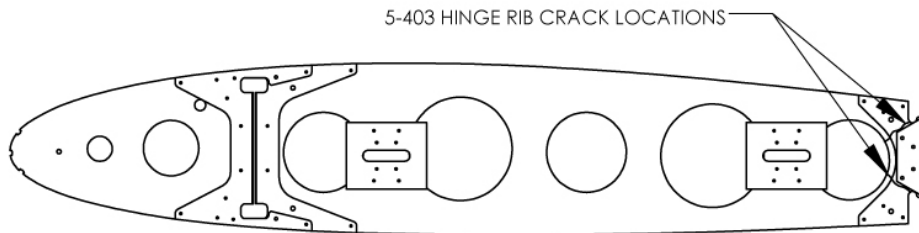

Figure 4, Hinge Rib Crack Locations
5. Visually inspect hinge rib and rear spar gusset for cracks as shown in Figure 4 (3 locations per wing). The cracks originate at the rear spar relief and propagate diagonally toward the rib lightening hole. The cracks may also originate from rivet locations. Using a mirror inspect the opposite side of the hinge rib and gusset for cracks.